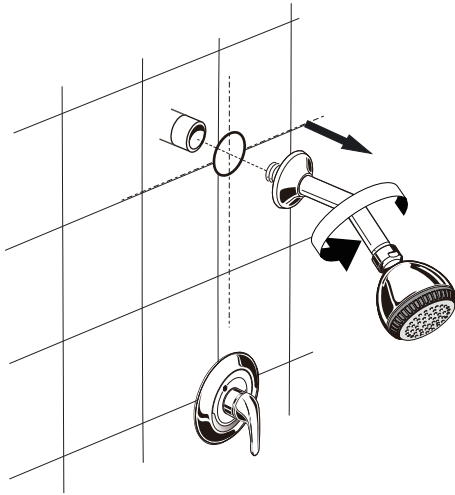

Fig 4.1
- 4-1** Turn off the faucet. Remove the existing shower head and shower arm assembly. (Fig 4.1)